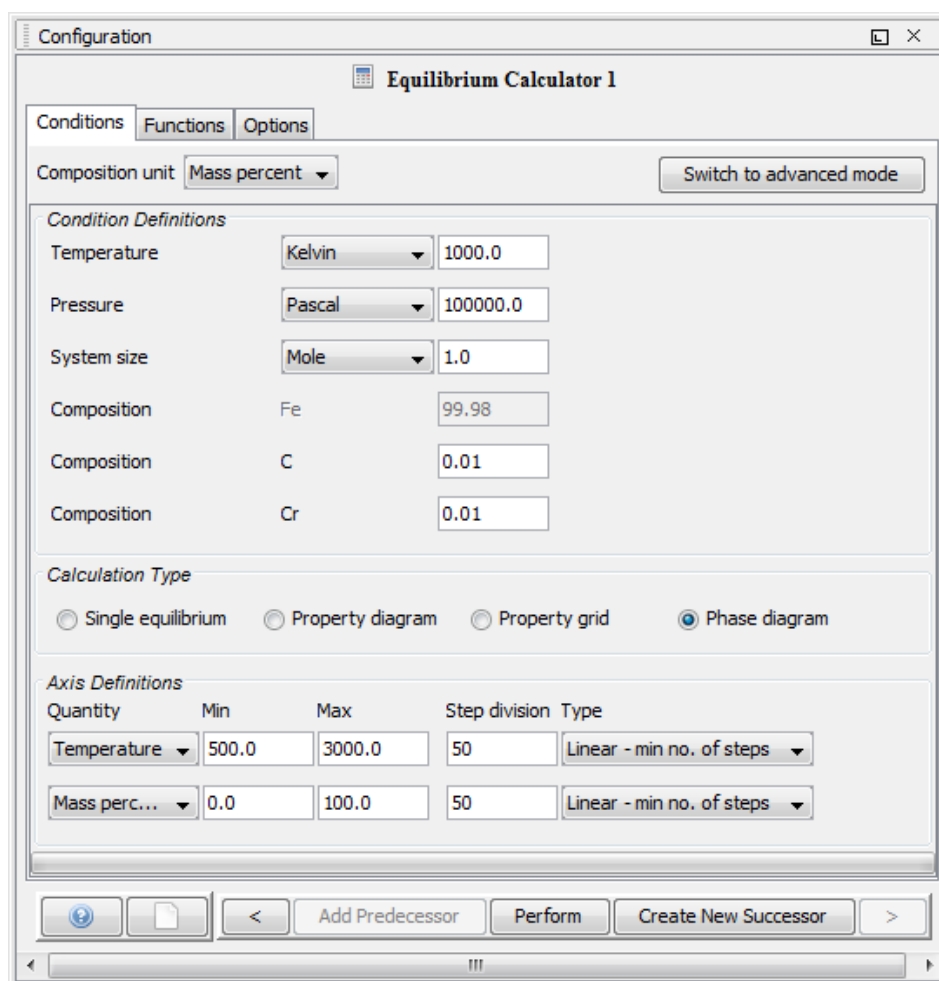

Figure 22: An example of an Equilibrium Calculator Configuration window.
An Equilibrium Calculator allows you to set the conditions for, and perform, a calculation. The Configuration window for an Equilibrium Calculator has these tabs (Figure 22):
Conditions and axis variables for the Equilibrium Calculator are set in the Conditions tab of the Configuration window (Figure 22). The tab can be viewed in two modes: simplified (the default) or advanced.
3. In the **Configuration** window, click **Switch to advanced mode** (Figure 22).